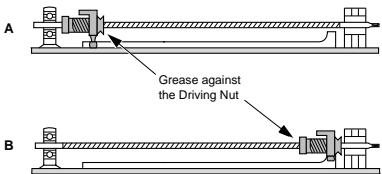

figure WM 4 - Greasing of the Driving Screw
6. Proceed with greasing of the Driving Screw: see figure WM 4; make the Driving Nut travel a few times in both directions along the full length.